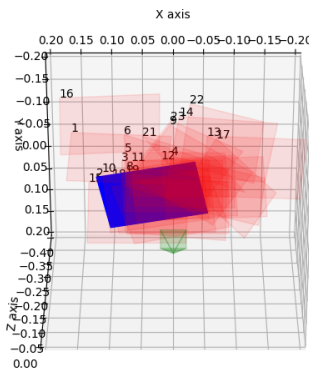

Figure 3: Example plots for (v)(b).
- (b) As a second check, take a look at `plotBoardLocations` and run this function as well (in `cal_workspace.py`). This function takes in your extrinsic parameters and shows the estimated locations and orientations of the chessboards relative to the camera. Refer to Figure 3 to see what the expected results should be. (Hit enter in the terminal to move to the next image.)